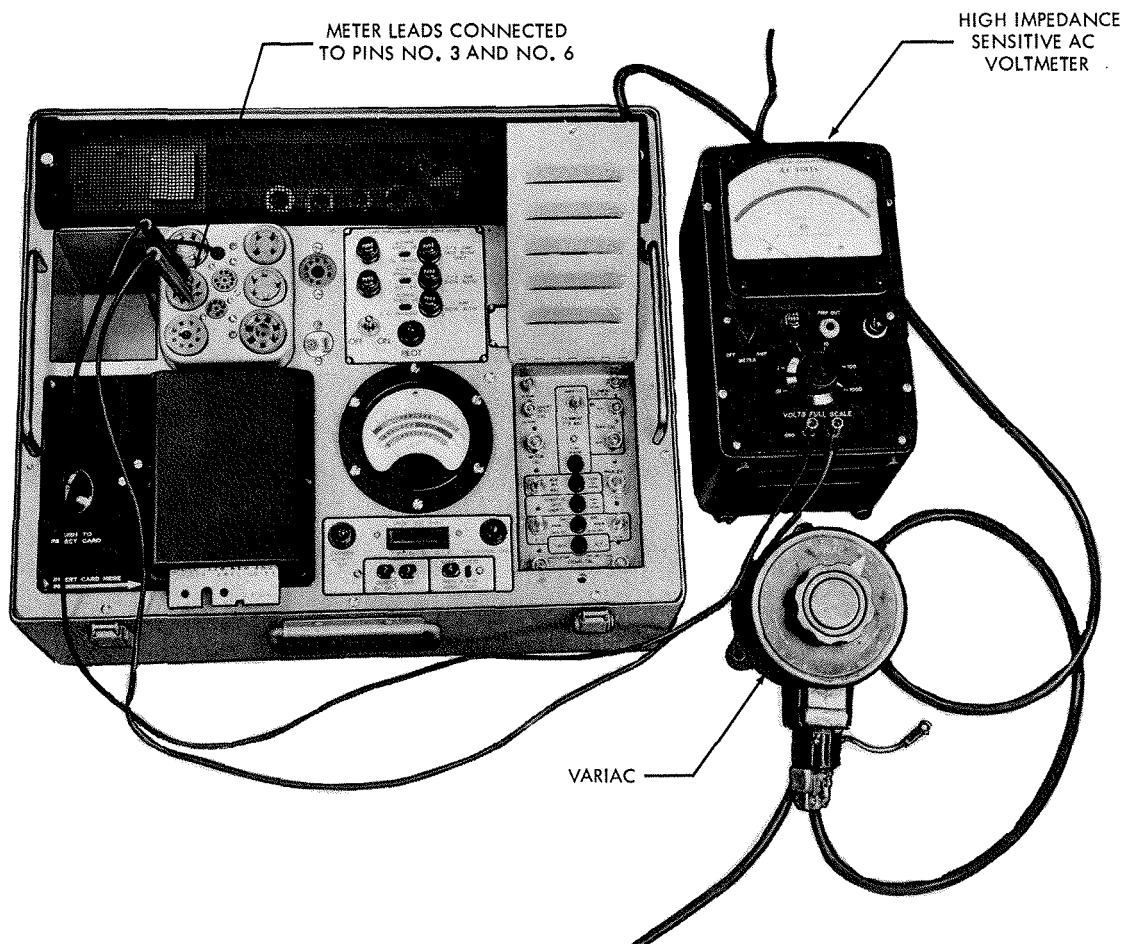

Figure 13 - Signal Regulation and Amplitude Check
- a. Connect the tube tester to the power line thru a Variac set to 115 volts. See figure 13. Turn the instrument on.